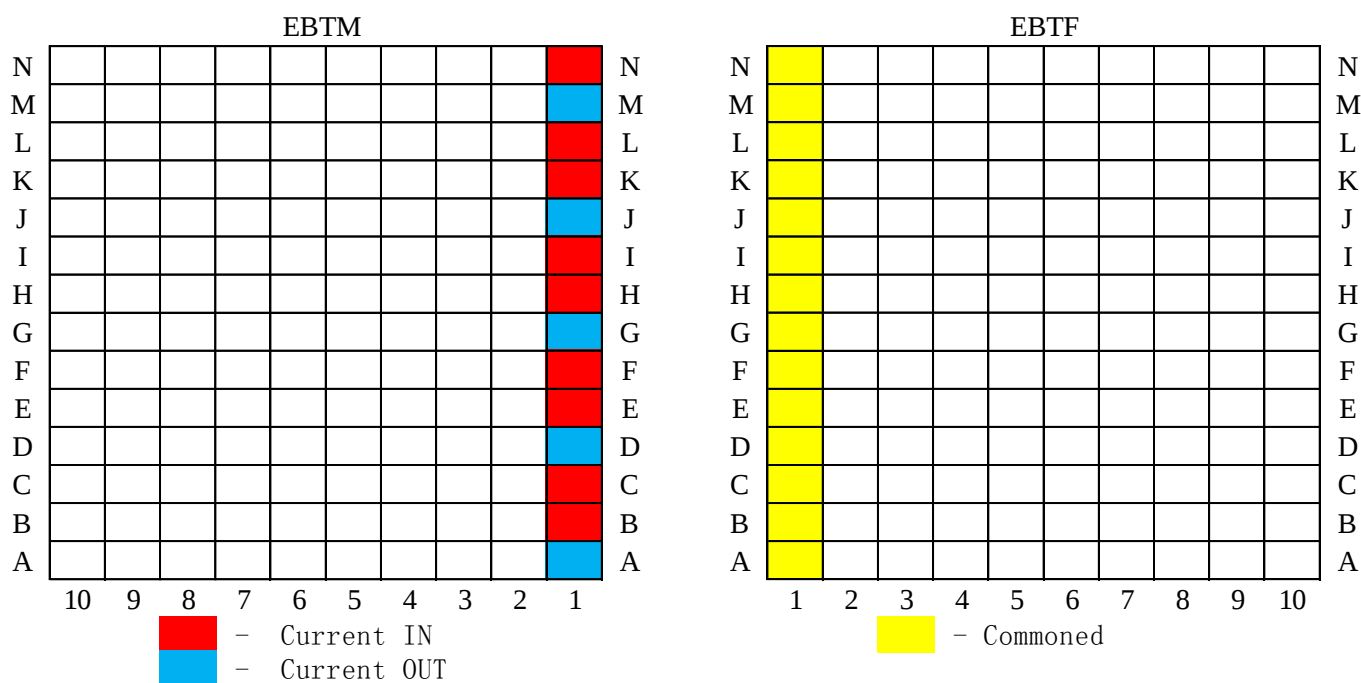

Figure 2
2. 14 Pins powered with all signal pins combined to carry supply while all grounds on that wafer to carry return, please see figure 2.